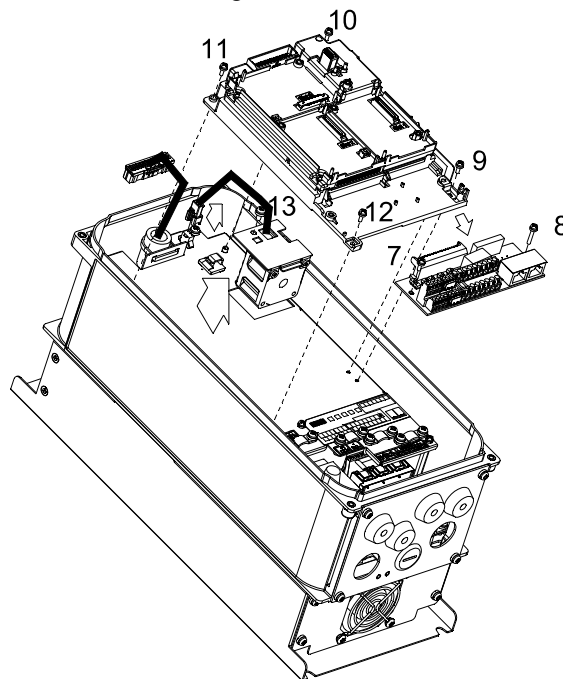

Figure 3
3. Loosen the screws 8~13 then remove the fan kit.(refer to Figure 3)